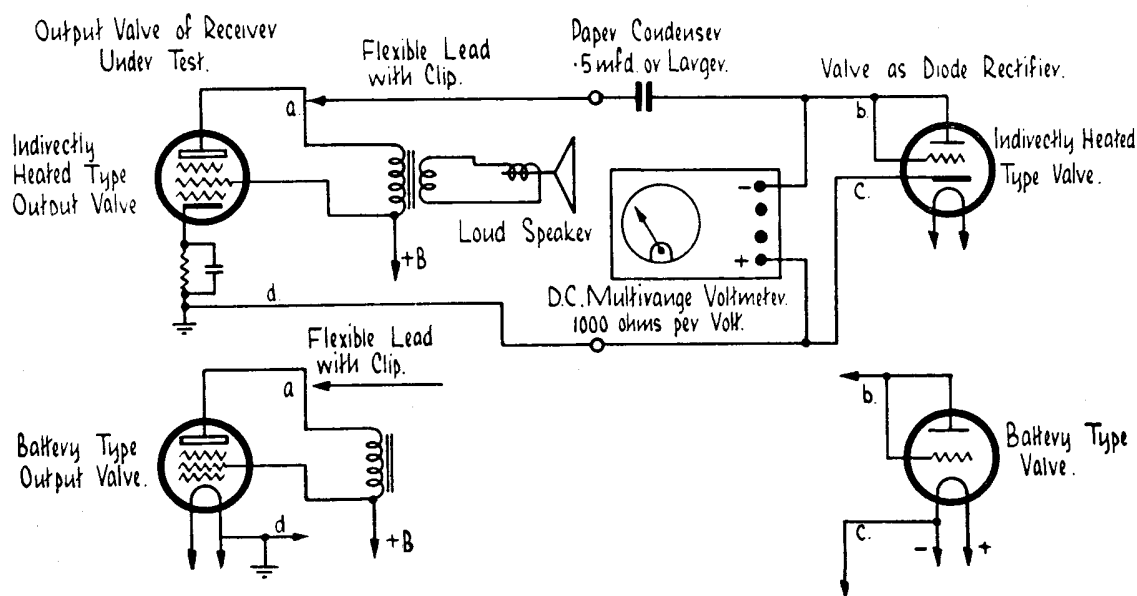

Fig. 56.—Output Meter.
4. Connect an output meter in the plate circuit of the last valve. See Fig. 56.